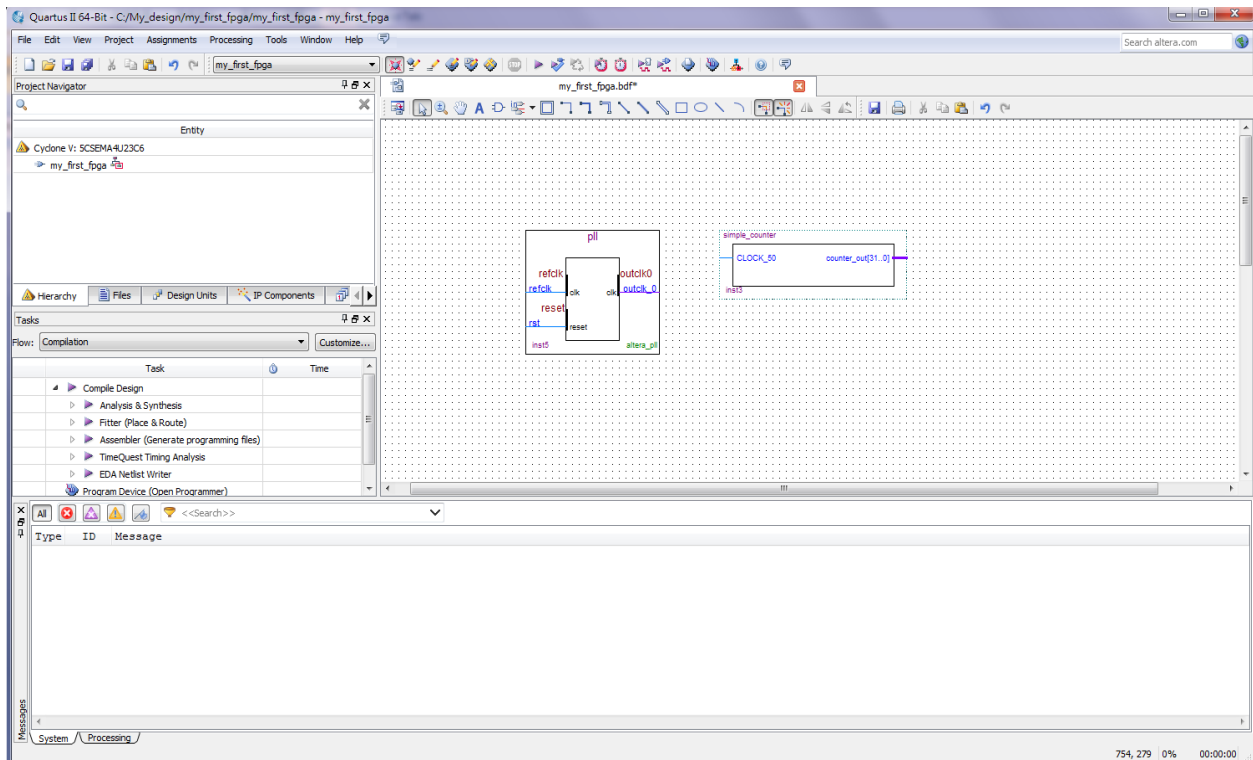

Figure 3-15 Place the PLL Symbol
10. Click OK and place the pll symbol onto the BDF to the left of the simple_counter symbol. You can move the symbols around by holding down the left mouse button, helping you ensure that they line up properly. See Figure 3-15.